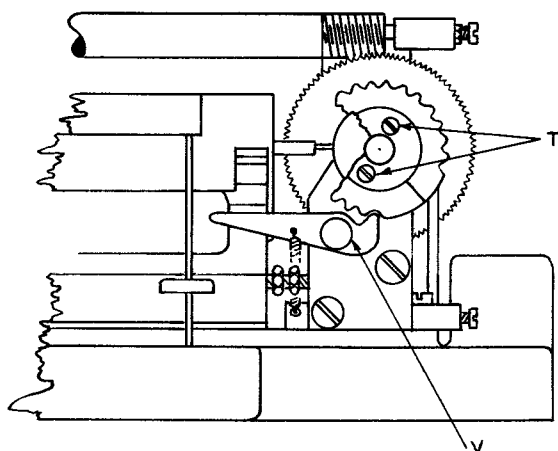

FIG 26
46. WITH THE KEYBOARD NORMAL, RELEASE THE ANSWER-BACK DETENT MANUALLY. TURN THE MACHINE BY HAND & ENSURE THAT THE COMB-BARS CANNOT SLIP OVER OR UNDER THE WARDS OF THE ANSWER-BACK UNIT. CORRECT THE ADJUSTMENT BY HOLDING THE LEVER V IN A NOTCH & CLAMP THE DRUM CORRECTLY BY SCREWS T (FIG 26)